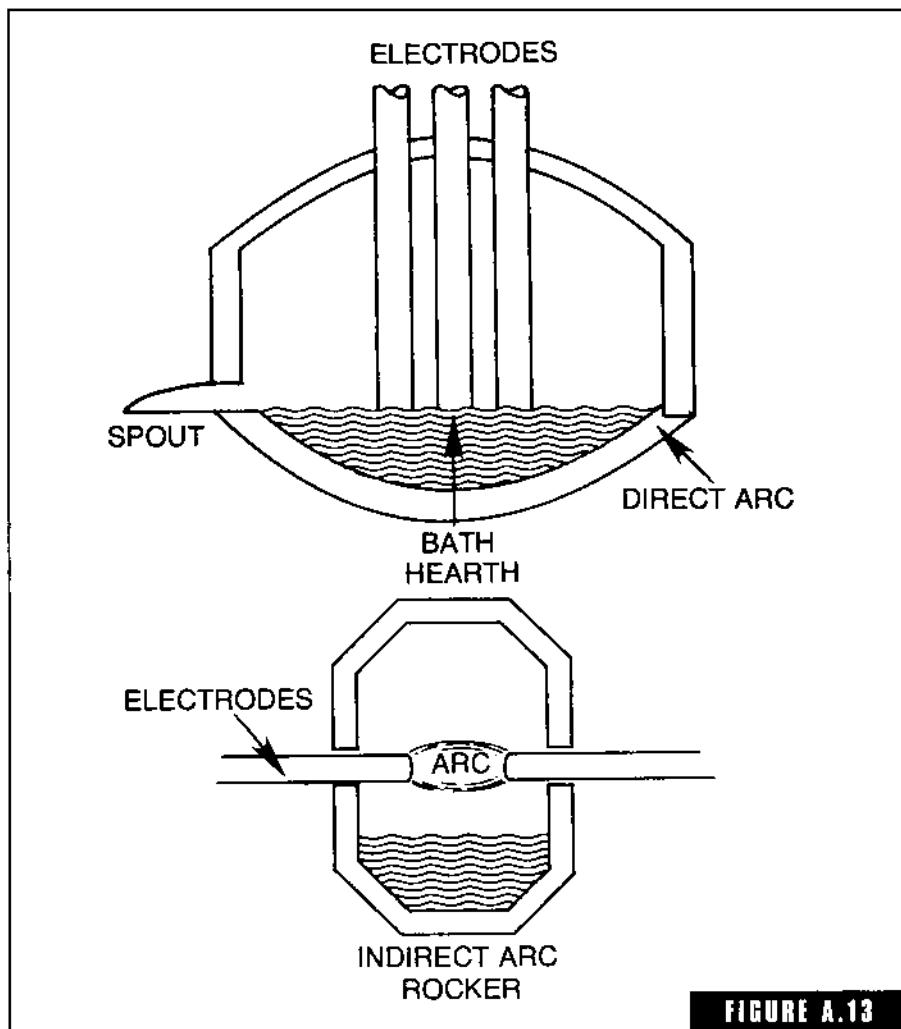

FIGURE A.13
**arc furnaces** There are two basic types in use—the *direct* and *indirect arc* (Fig. A-13). In the direct arc furnace three electrodes in a triangular pattern come through the roof of the furnace through suitable openings. They are provided with a suitable mechanism for raising and lowering them. The metal is melted by direct contact with the electrodes. The electrodes are raised and the charge placed on the hearth. The electrodes are then lowered and the